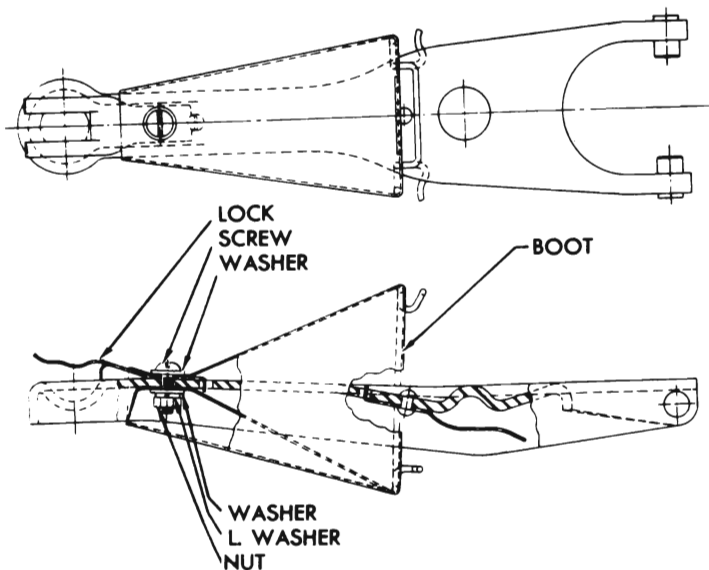

Figure 4-9—Clutch Release Yoke and Boot
2. Disconnect release rod adjusting nut from release yoke and remove yoke boot and release rod nut lock which are bolted to yoke. See figure 4-9.
8. Install boot and release rod nut lock on yoke (fig. 4-9), attach release rod to yoke, then adjust for clutch pedal lash of  $\frac{3}{4}$ " (par. 4-7).